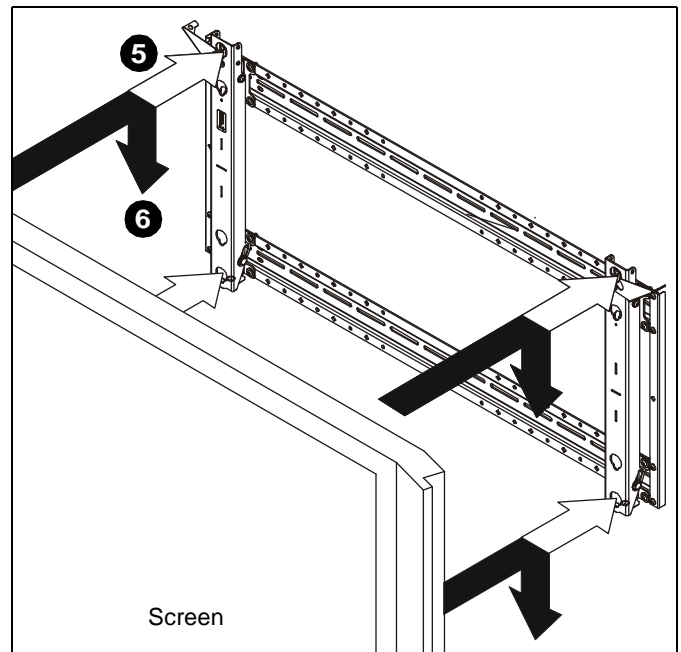

Figure 15
4. Align mounting buttons on screen with teardrop mounting holes in mount. (See Figure 15)
5. Move screen forward until recessed area of mounting buttons is positioned over lower area of teardrop mounting holes. (See Figure 15)
6. Lower screen until recess area of mounting buttons is seated in lower area of teardrop mounting holes. (See Figure 15)